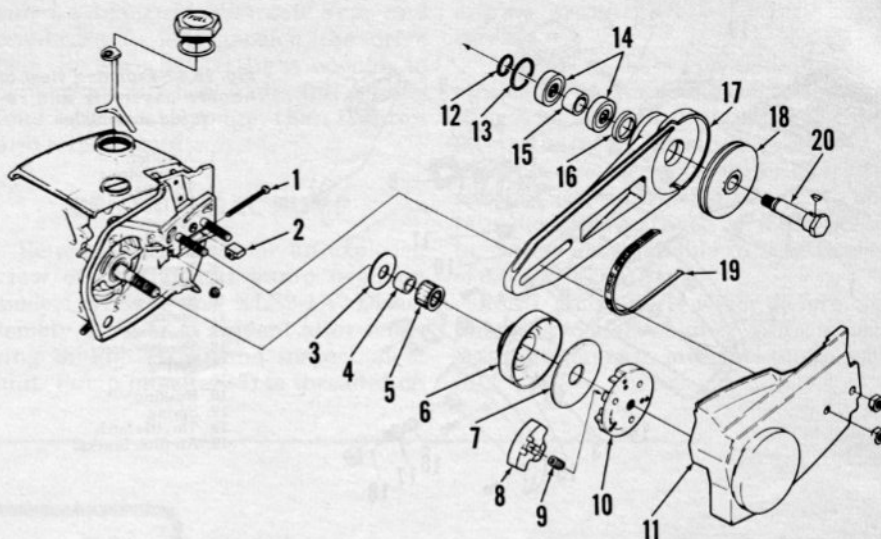
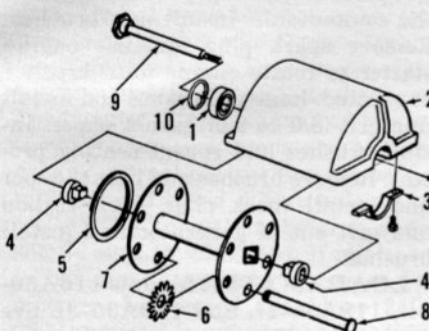

Fig. HL98—Exploded view of clutch and wheel arm assemblies.
Fig. HL101—Exploded view of cutting assembly on Chipper.
CLUTCH. Refer to Fig. HL98 for exploded view of the shoe type clutch. The clutch hub (10) is threaded to crankshaft; turn clutch hub in clockwise direction to remove from crankshaft.
models are equipped with the chipping device shown in Fig. HL101. The abrasive wheel or chipper is attached to the drive assembly shown in Fig. HL98.
To disassemble drive mechanism, remove wheel or chipper assembly from arm (17—Fig. HL98). Remove side cover (11) and belt (19). Separate arm assembly from engine. Remove snap rings (12 and 13), shaft (20) and driven pulley (18). Inspect components (14, 15 and 16) and remove if necessary. Bearings (14) are a press fit in arm.